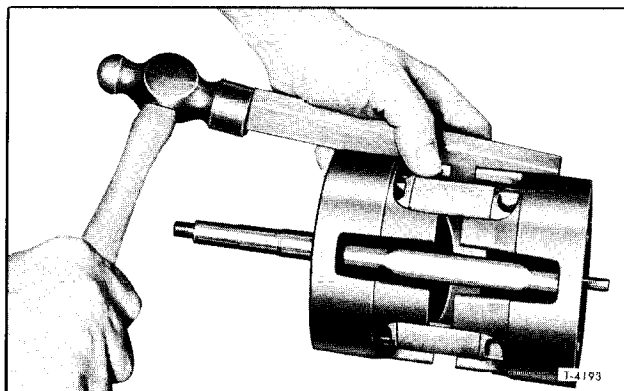

Figure 52—Separating Cylinder Halves
3. Drive the cylinder halves apart and free from the dowel pins and discharge crossover tube using a fiber block and mallet (figure 52). Discard the discharge cross-over tube.